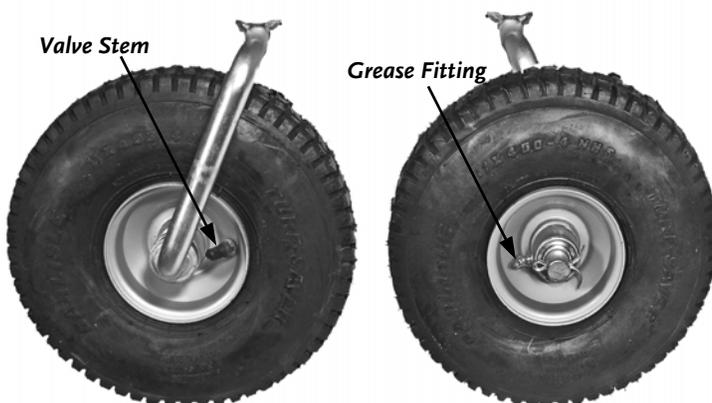

Figure 15
1. Grease the Fitting on each of the front Caster Wheels (**Figure 15**).
NOTE 2: This would also be a good time to check the air pressure in the Caster Wheel Tires (**Figure 15**). The maximum Tire pressure is marked on the side of each Tire. Do not exceed the manufacturer's recommended maximum pressure.